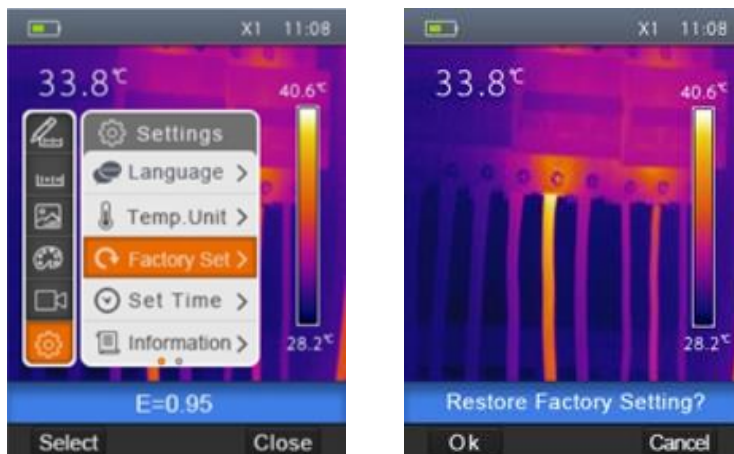

Fig. 10: Setting default conditions on the instrument
1. Select the item “Factory Set” with the keys \oplus or \ominus and press the key . The screen of Fig. 10 – Right side is shown on the display.